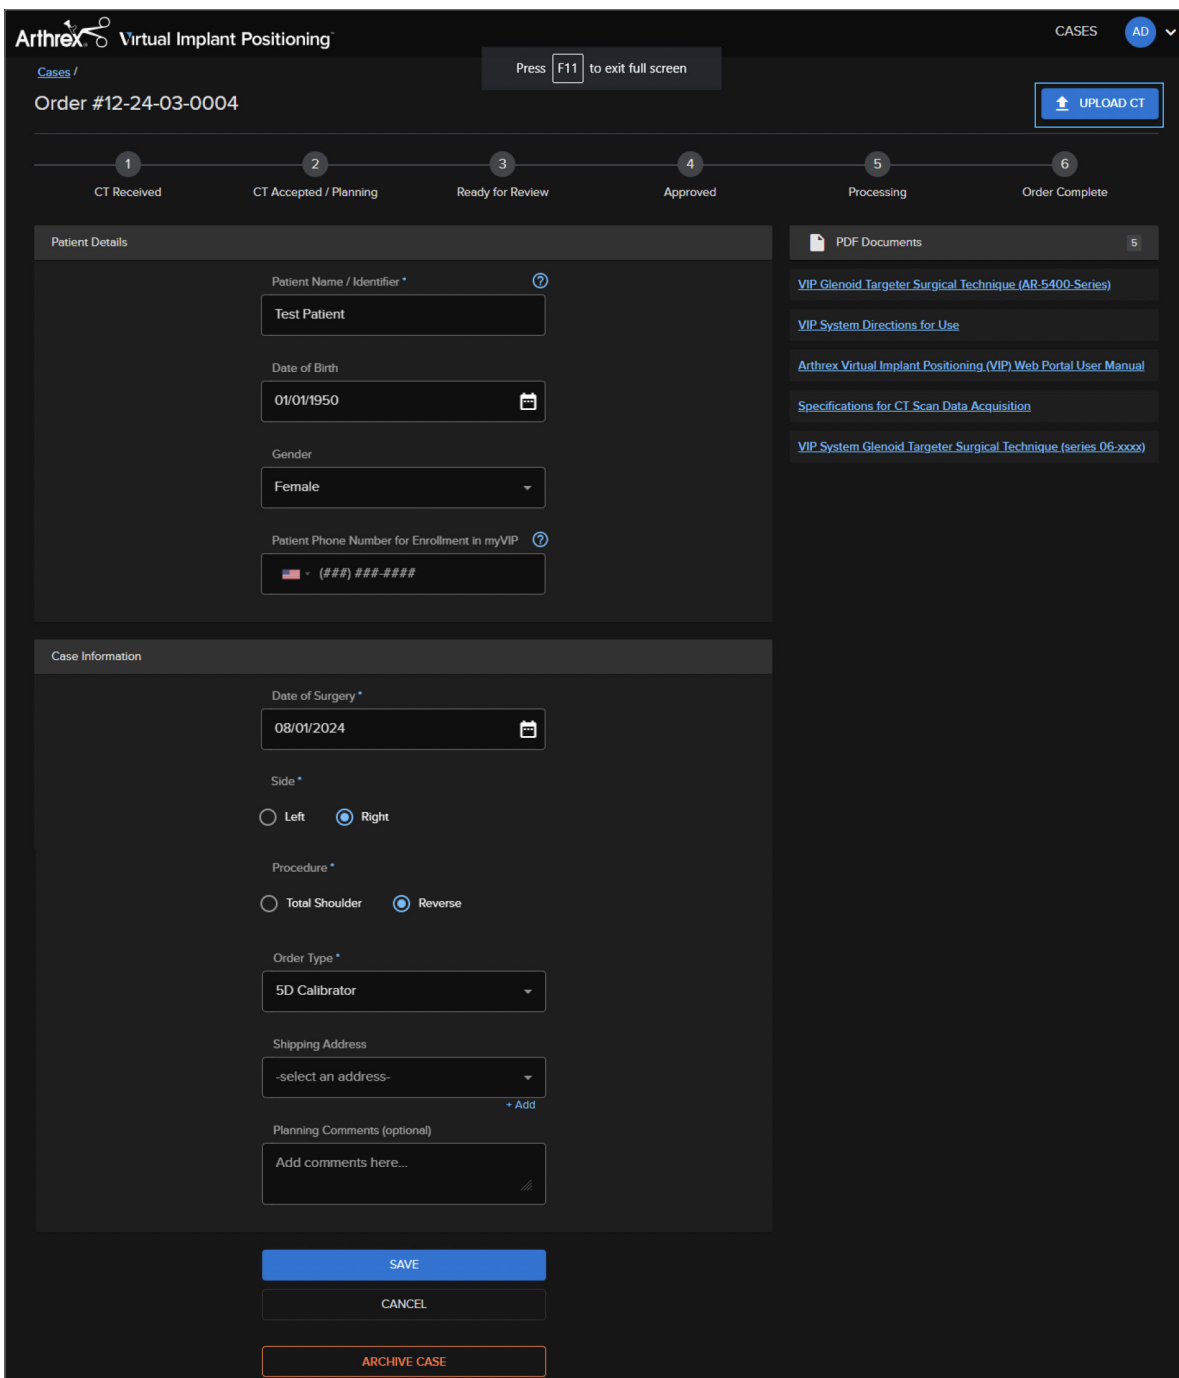

Figure 7. Case and CT upload forms
- Once a new case is created, click the “Upload CT” button to upload the CT images for this case (Figure 7).